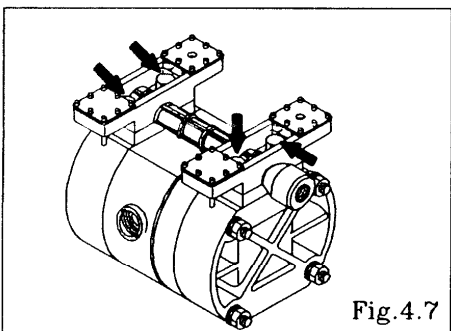

Fig. 4.7
- Turn over the main body assembly. [Fig.4.7]
- Remove the 4 retainer bolts from the in manifold, and remove the base and in manifold. (NDP-15) [Fig.4.7]